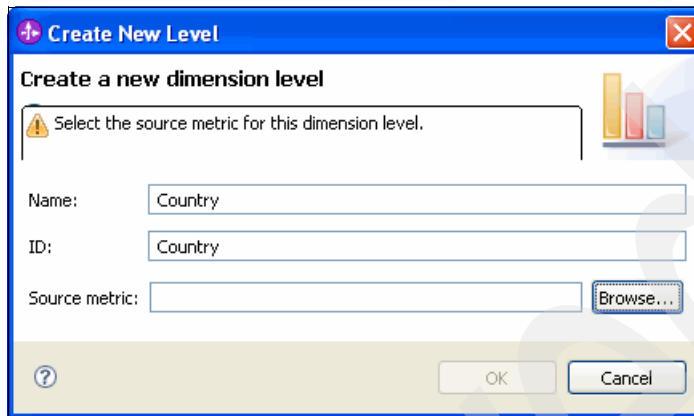

Figure 8-115 Setting the dimension level name
5. In the Create New Level window (Figure 8-115):